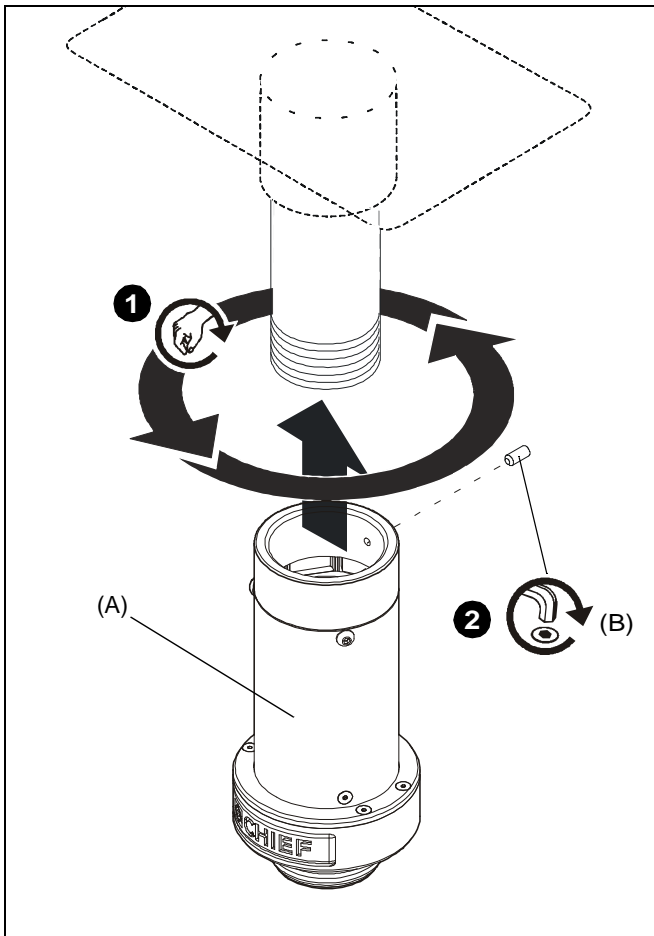

Figure 1
1. Thread CMSH3 (A) onto ceiling pipe until hand tight. (See Figure 1)
2. Secure CMSH3 to ceiling pipe using 5/64" hex key (C) and #8-32 x 3/8" set screw (B). (See Figure 1)